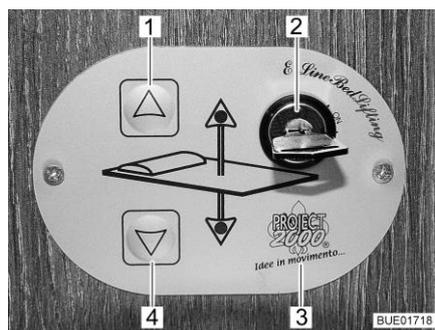

Fig. 147 Control unit
The pull-down bed is raised or lowered using the buttons (Fig. 147,1 and 4) on the control unit (Fig. 147,3). The control unit is protected against unauthorized use with the key switch (Fig. 147,2).
- Turn the key in the key switch (Fig. 147,2) by 90° in a clockwise direction to position "On". The control unit (Fig. 147,3) is activated.
- Press the arrow key (Fig. 147,4) and keep it pressed until the pull-down bed has moved down into the desired position.
- Press the arrow key (Fig. 147,1) and keep it pressed until the pull-down bed has moved down into the final upper position.
Emergency operation If it is no longer possible to move the pull-down bed with the arrow keys (Fig. 147,1 and 4), first of all check the fuses (see section 9.10.1). If the fuses are okay and it is still not possible to move the pull-down bed, the pull-down bed can be operated manually.